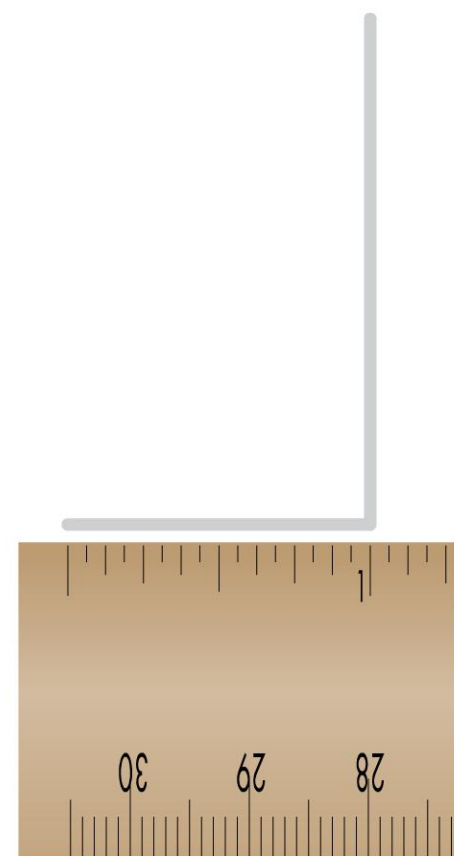

figure 1
- 2** Cut a segment of 26-gauge wire, whatever length you are comfortable working with, and make a coil on the mandrel measuring  $\frac{3}{4}$ " (1.9 cm). Remove the coil from the mandrel. Trim one wire tail at the coil and leave the second tail 2" (5.1 cm) long (Figure 1). Repeat to form a total of eighteen  $\frac{3}{4}$ " (1.9 cm) coils.